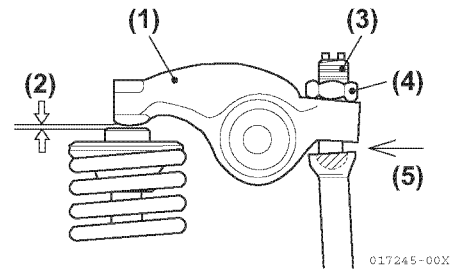
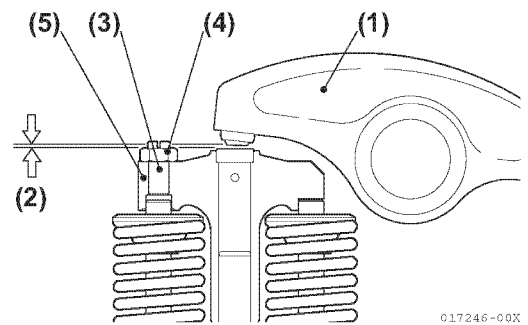

Figure 5-151
Figure 5-152
- Coat the rocker arm and valve spring with lubricating oil and install the rocker arm cover (**Figure 5-151**) and (**Figure 5-152**).